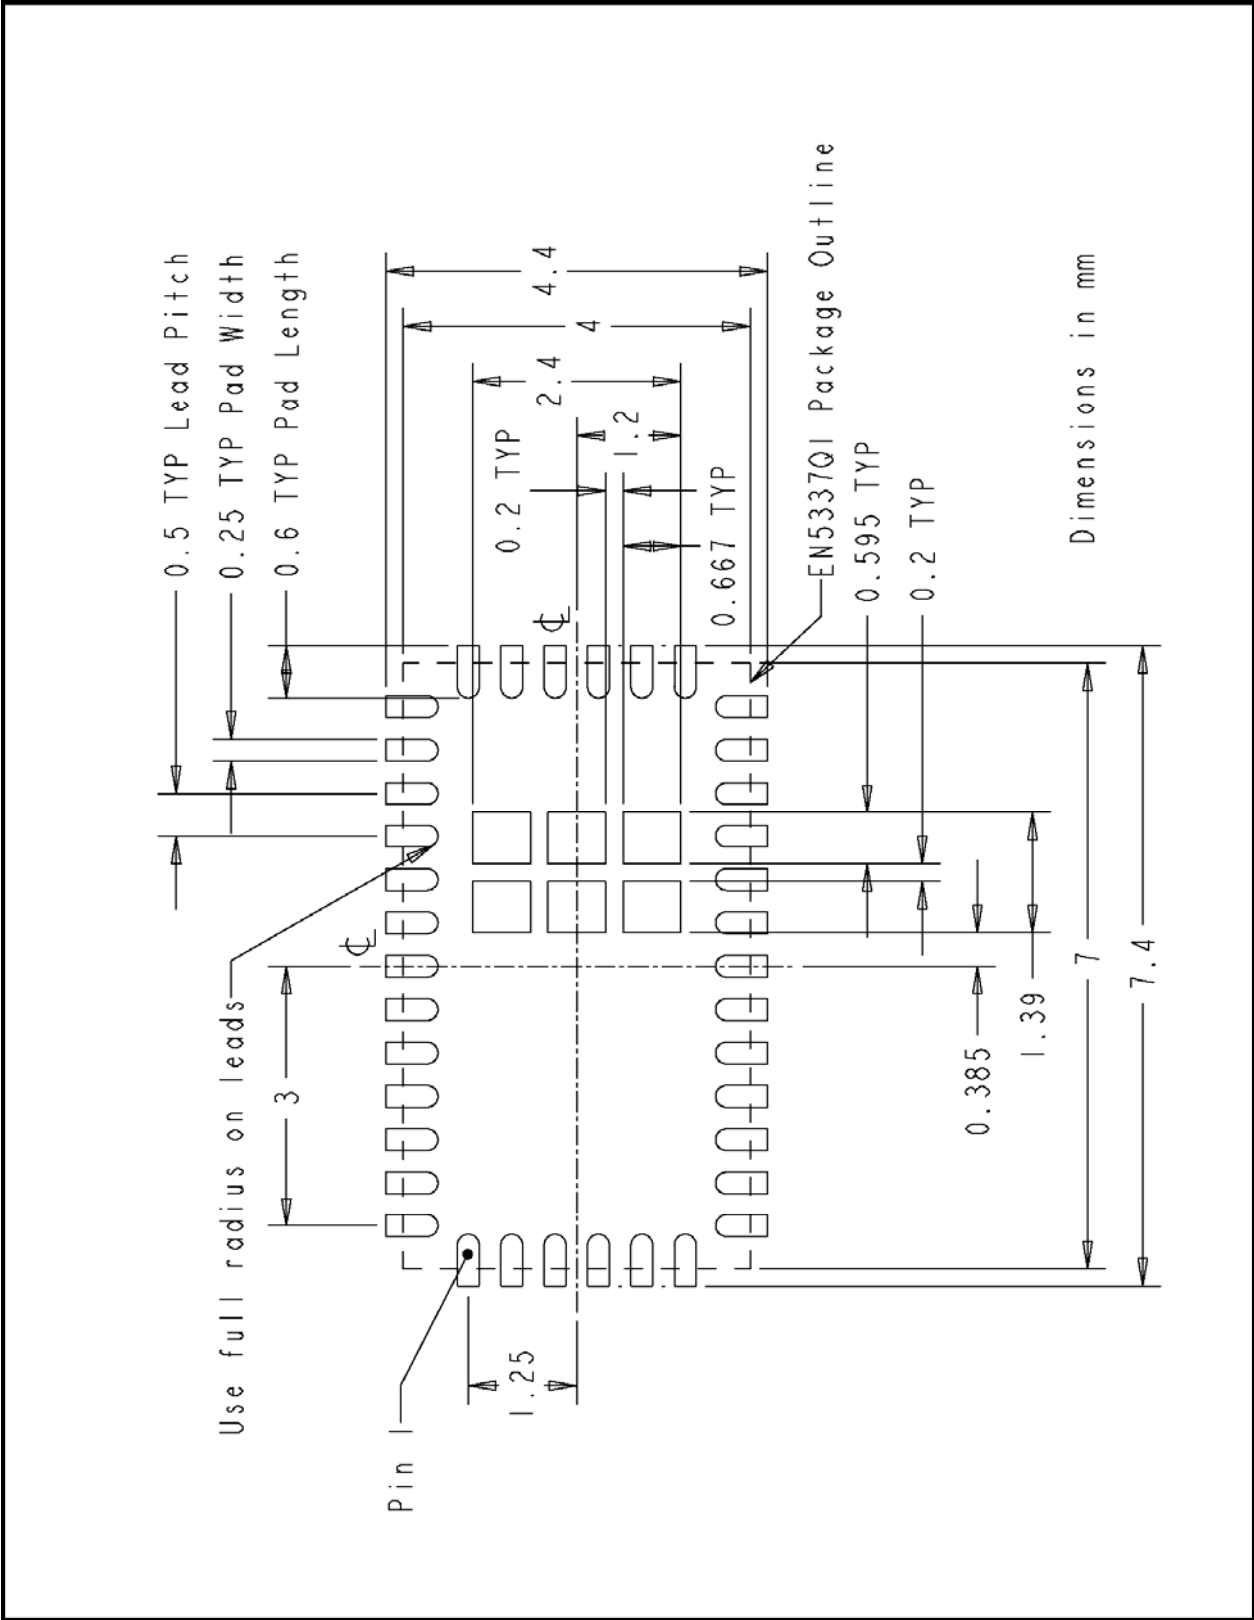

Figure 5 Solder stencil aperture layout for the EN5337QI QFN package
Figure 5 shows the solder stencil aperture layout for the EN5337QI QFN package.
- If open through-hole plated vias are used in the PCB GND pad then the stencil aperture opening should have a size ratio of 0.95:1. Note: the quantity and diameter of the vias will determine the amount of solder that will flow into the vias during reflow reducing the solder volume between the EN5337QI GND pad and the PCB GND pad. The solder stencil aperture layout should use one large aperture opening for the GND pad with dimensions as shown in Figure 5.
- If plugged and capped through-hole vias are used in the PCB GND pad then the stencil aperture opening should have a size ratio near 0.50:1. Note: less solder paste will be required since the vias will not fill with solder during reflow. The solder stencil aperture layout should use six small aperture openings (known as a window pane solder stencil aperture) for the GND pad with dimensions as shown in Figure 5.